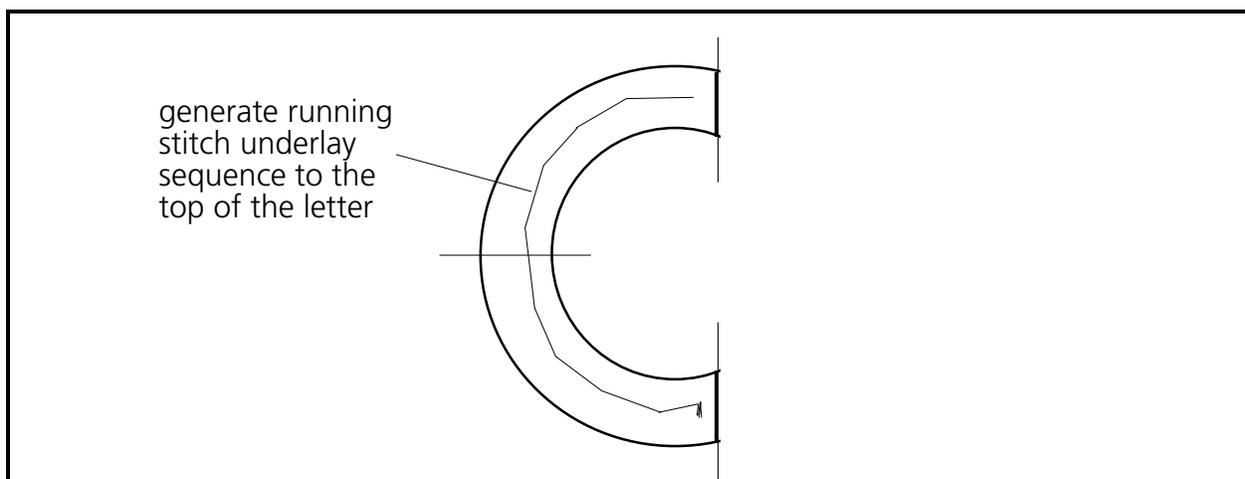

Figure 6-42
3. Place a running stitch underlay with Mk1s to get to the upper right portion of the letter **c** (see Figure 6-42).